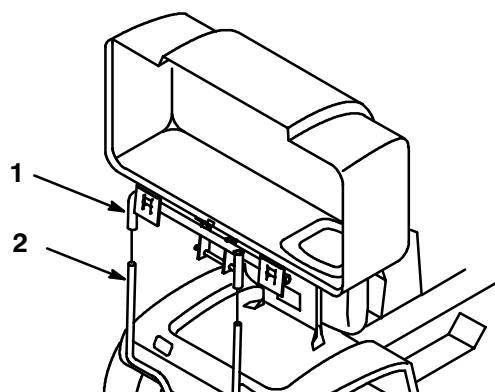

Figure 18
4. Carefully lift the bagger top and slide it onto the quick-attach bracket (Fig. 18). The bagger top is easier to install if two people work together.